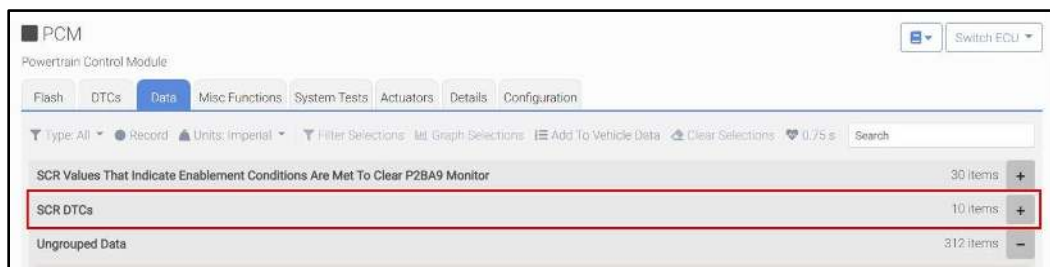

Figure 1.
3. Using wiTECH, navigate to the PCM DTCs tab and record the DTCs. If no DTCs are found, navigate to the PCM data tab. Expand the “SCR DTCs” group, and record the “SCR DTC” data parameters. Please see (Figures 1&2.). Is P2BA9 present in the PCM DTCs and/or 2BA9 present in the SCR DTC data parameters?